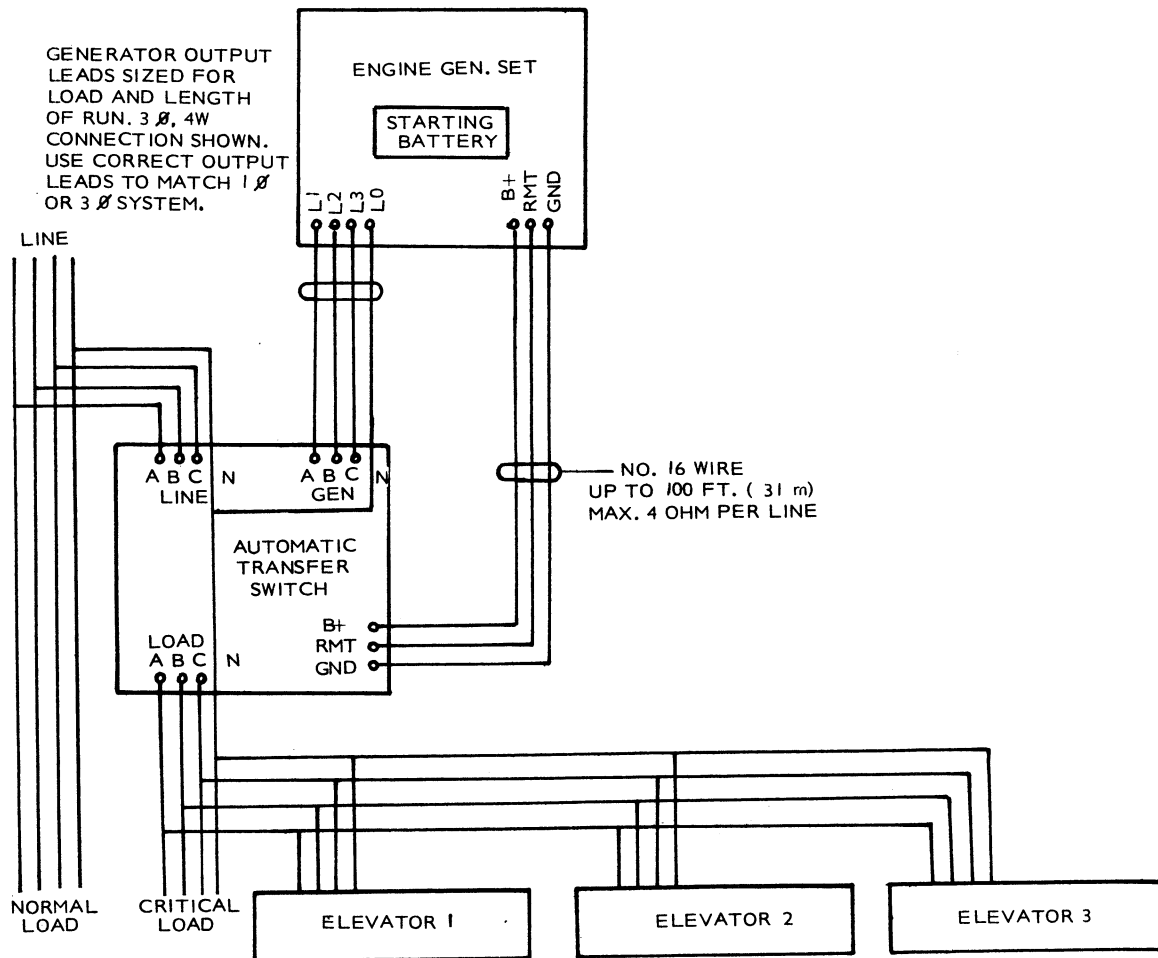

FIGURE 10. STANDBY PROTECTION OF ELEVATORS AND CRITICAL LOAD WITH ONE GENERATOR SET AND ONE "AT"
6. One generator set and one automatic transfer switch protect all elevators and critical load simultaneously. See Figure 10. Both the generator set and automatic transfer switch must be rated to carry the critical load and all elevators.